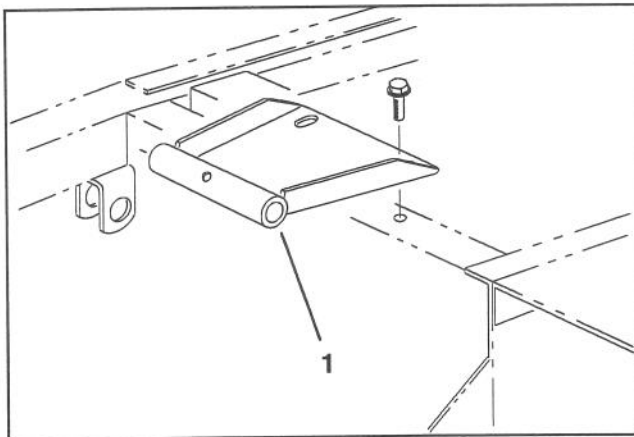

Figure 8
6. Mount seat pivot bracket to frame with (2) flange screws supplied in kit (Fig. 8).
9. Mount seat and seat support to seat pivot bracket with pivot shaft and roll pin (Fig. 8).